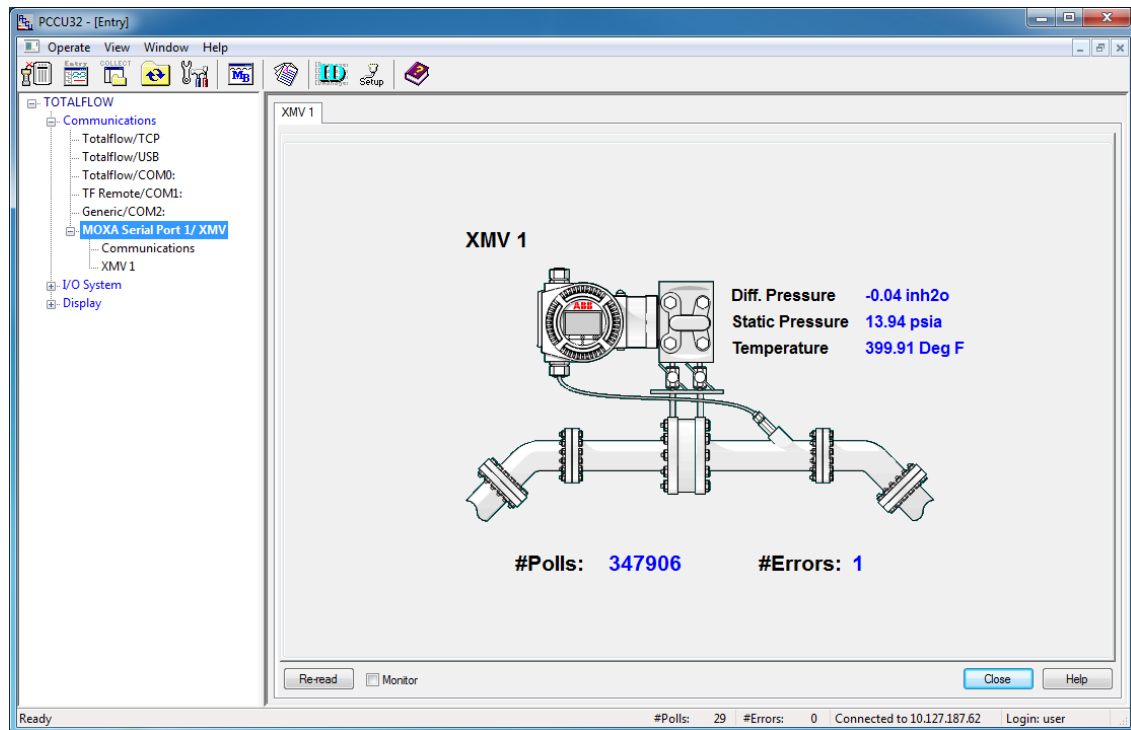
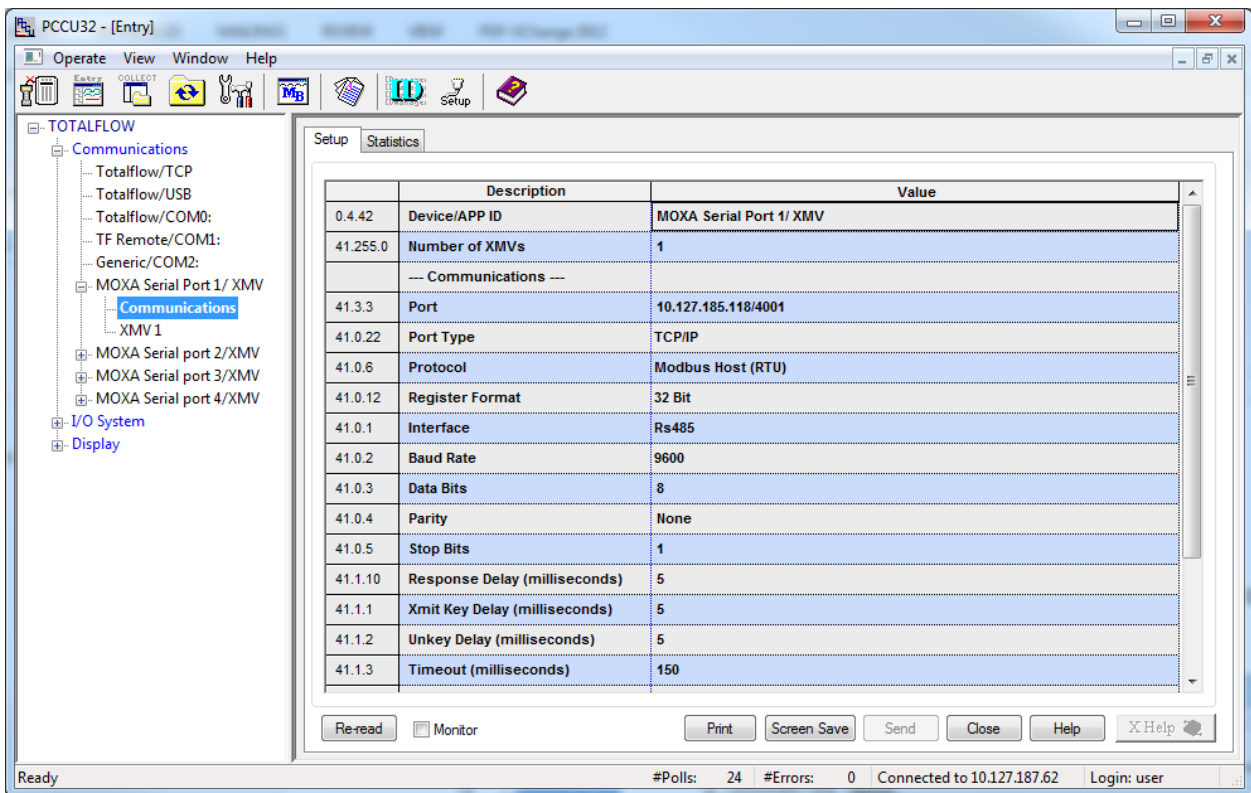

Figure 95: XMV application assigned to MOXA® serial port
Figure 96: XMV communication setup
12. Select the communication application in the navigation tree and select the appropriate tabs. See Figure 95 for an example of XMV interface mapped to a MOXA® serial port and Figure 96 for the communication setup.